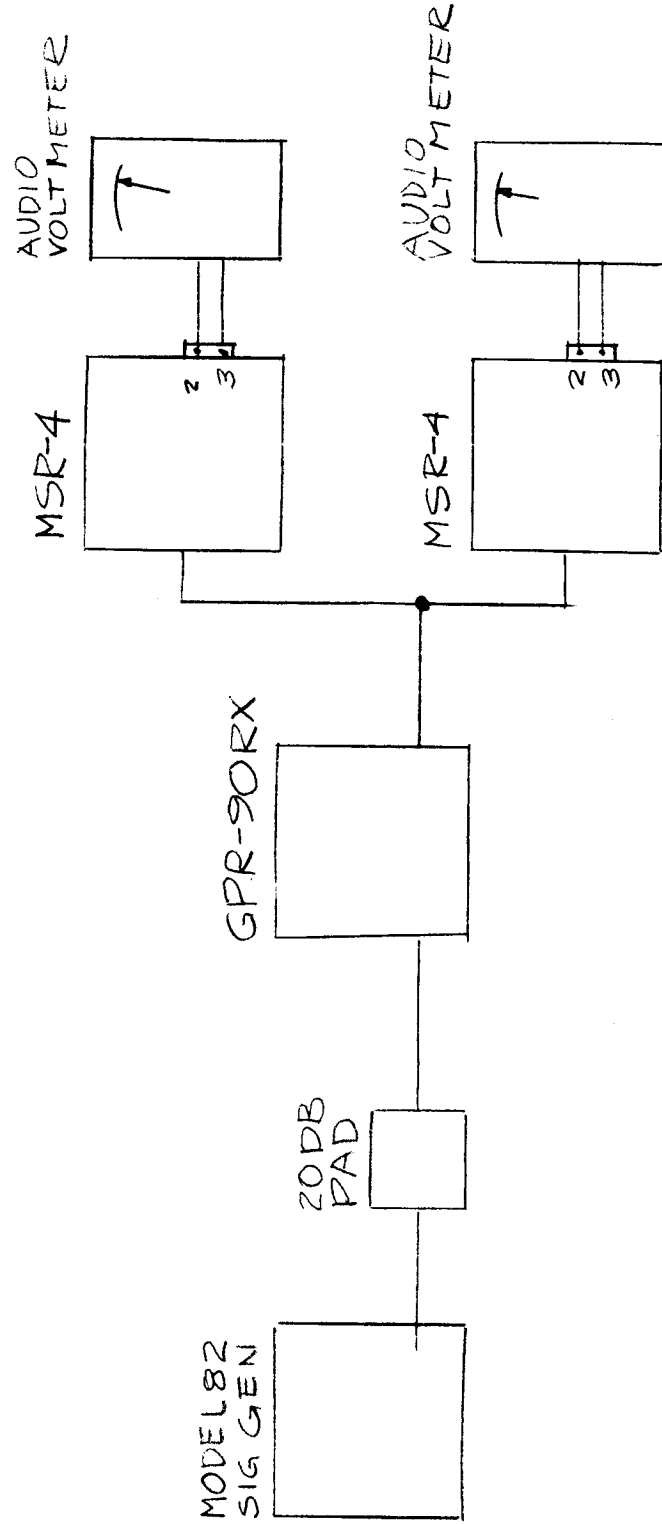

FIG. 1 RECEIVER SENSITIVITY
3. Perform the receiver sensitivity check as shown in figure 1. The frequencies used are 2 Mc, 4 Mc, 8 Mc, 16 Mc, and 28 Mc. Note that the output of both MSR-4 units must be measured. Sensitivity must be better than 1 microvolt for 10 db S+N/N.